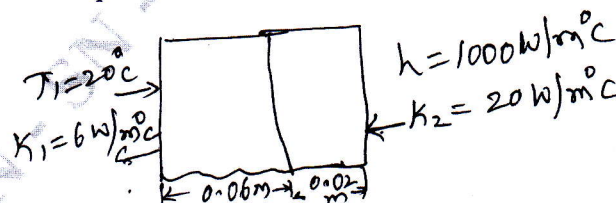

Fig.Q8(a)
- 8 a. Determine the temperature distribution through the composite wall subjected to convection heat loss on the right side surface with convective heat transfer coefficient as shown in Fig.Q8(a). The ambient temperature is  $-5^\circ\text{C}$ .